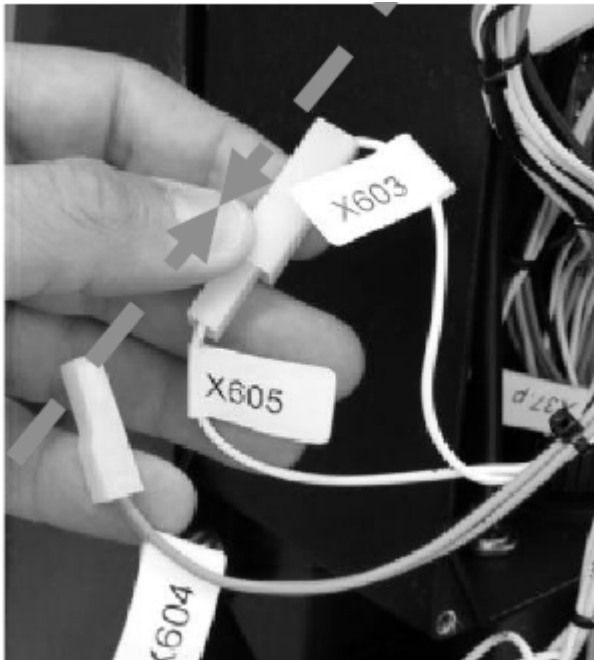

Figure 4-55.
12. Connect connector X603 to connector X605. See Figure 4-55.